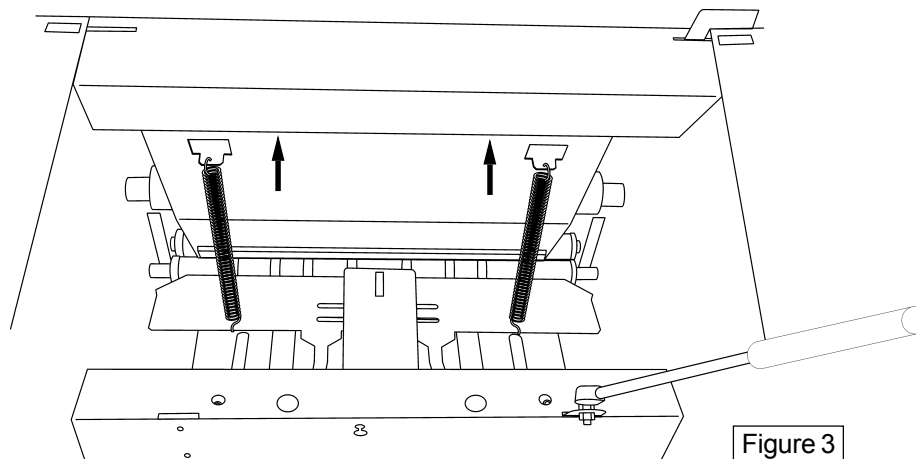
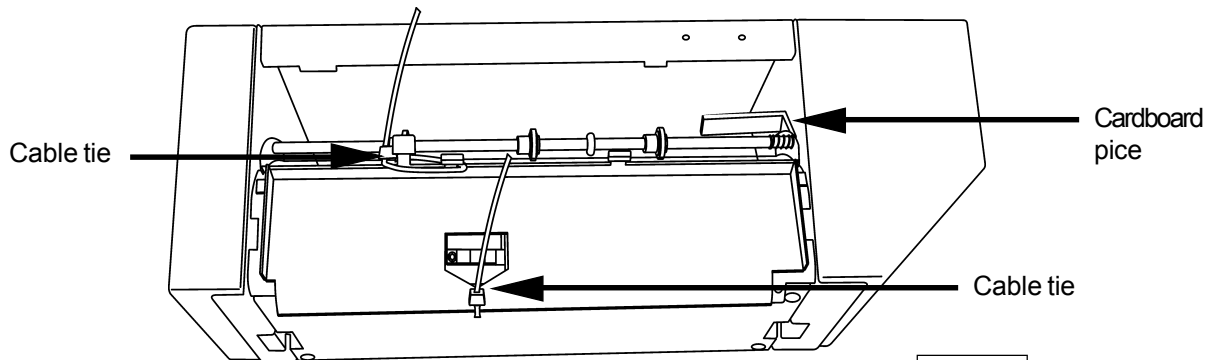
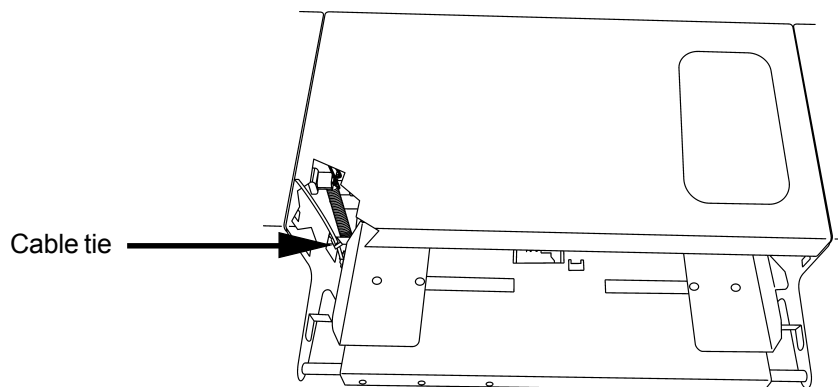

Figure 3
Figure 1
Figure 2
7. Install two new springs from the Cover feeder box, item 9 on the front side.
9. Install two new springs from the Cover feeder box, item 9 on the rear side.
10. Remove the folder bracket by removing four 7mm screws according to figure 2.
11. Take the Cleaning plate, item 9 from the Cover feeder box.
12. Put the Cleaning plate behind and under the SR85 frame, and between the two Fold rollers according to figure 3.
13. Attach the two springs on the white bracket according to figure 3.
1. Cut the three red cable ties and remove the cardboard between the Upper paper path and the frame. Figure 1 and Figure 2.